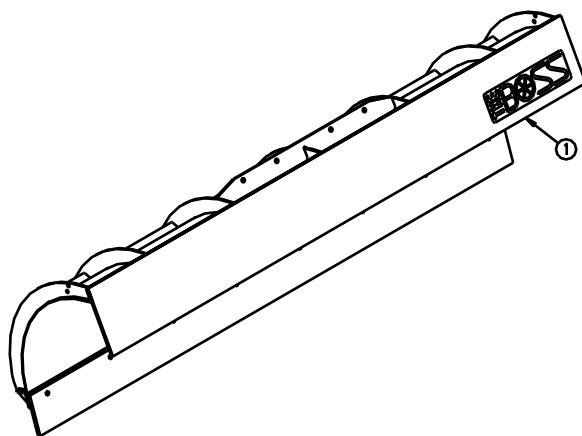

Figure 8. Clamping Orientation
1. Clamp Belting (1) to the top edge of the Plow Blade as shown in Figure 8.